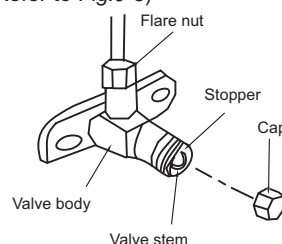

Fig.9-6
- Check all the joints with the leak detector or soap water. (See Fig.9-6 as a reference illustration)
- All the stop valves should be opened before test operation. Each air conditioner has two stop valves of different sizes on the side of the outdoor unit which operate as Lo-stop valve, respectively. (Refer to Fig.9-6)